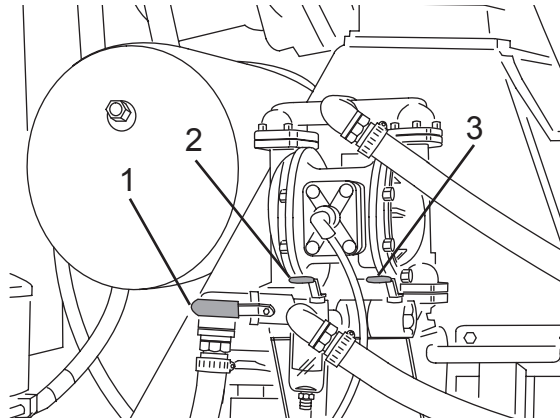

Figure 92
- Close the main tank ball valve (Figure 92, Item 2) and chemical tank ball valve (Figure 92, Item 1) (if equipped).
- Open the purge valve (Figure 92, Item 3).